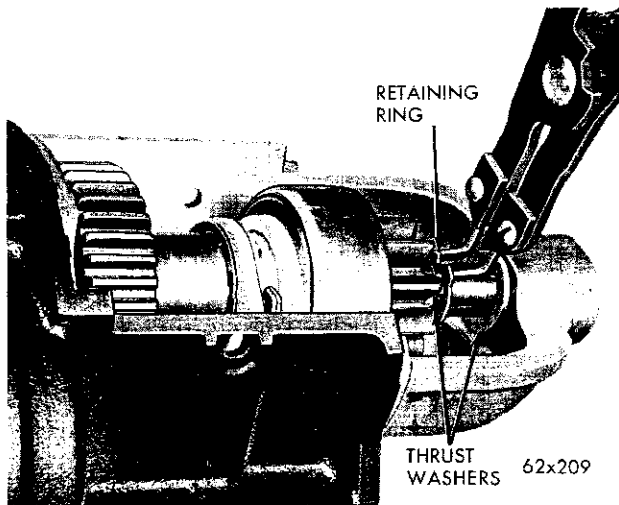
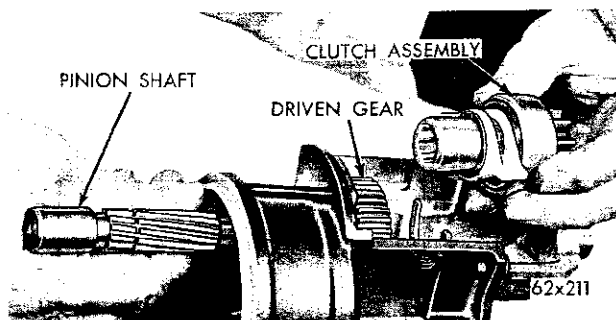
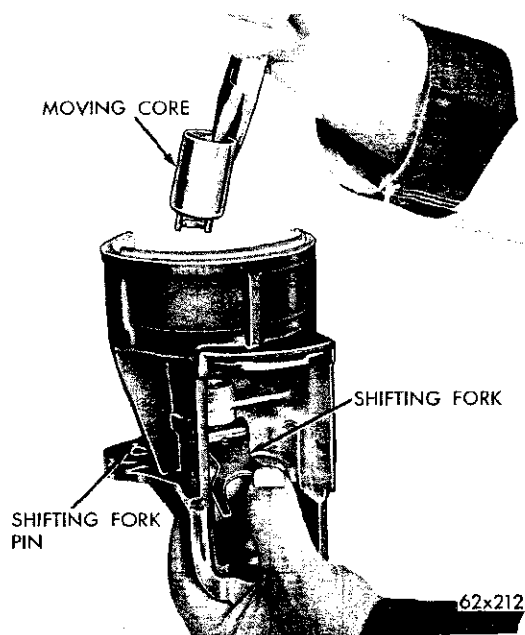

Fig. 30—Removing or Installing Pinion Shaft Retainer Ring
Fig. 32—Removing or Installing Clutch Assembly
Fig. 33—Removing or Installing Moving Core
- (22) Release the retainer ring at the front of the pinion shaft (Fig. 30).
(23) Push the pinion shaft towards the rear of the housing (Fig. 30) and remove the snap ring and thrust washers, clutch and pinion assembly, with the two shifter fork nylon actuators (Fig. 32).
(24) Remove the driven gear and friction washer.
(25) Pull the shifting fork forward and remove the solenoid moving core (Fig. 33).
(2) Install the solenoid moving core and engage the shifting fork (Fig. 33).
(3) Enter the pinion shaft into the drive housing, and install the friction washer and driven gear.
(4) Install the clutch and pinion assembly. (Fig. 32), thrust washer, retaining ring and the thrust washer.
(7) Install the pinion shaft retaining ring (Fig. 30). Make sure the ring fits tightly in the shaft groove.